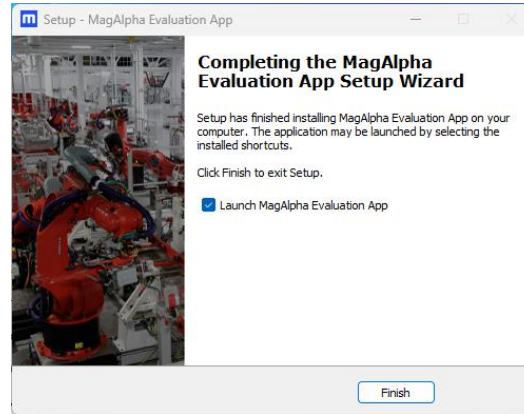

Figure 14: Installation Wizard (Complete)
- Click “Finish” to end the installation and launch the application (see Figure 14).